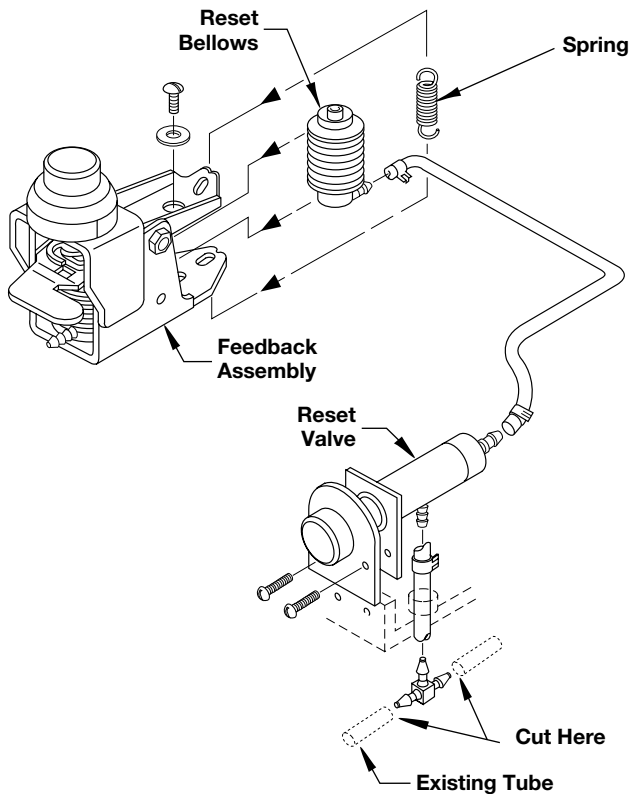

Figure 14
9. Cut the tube adjacent to the barbed tee below the reset valve assembly. Refer to Figure 14.